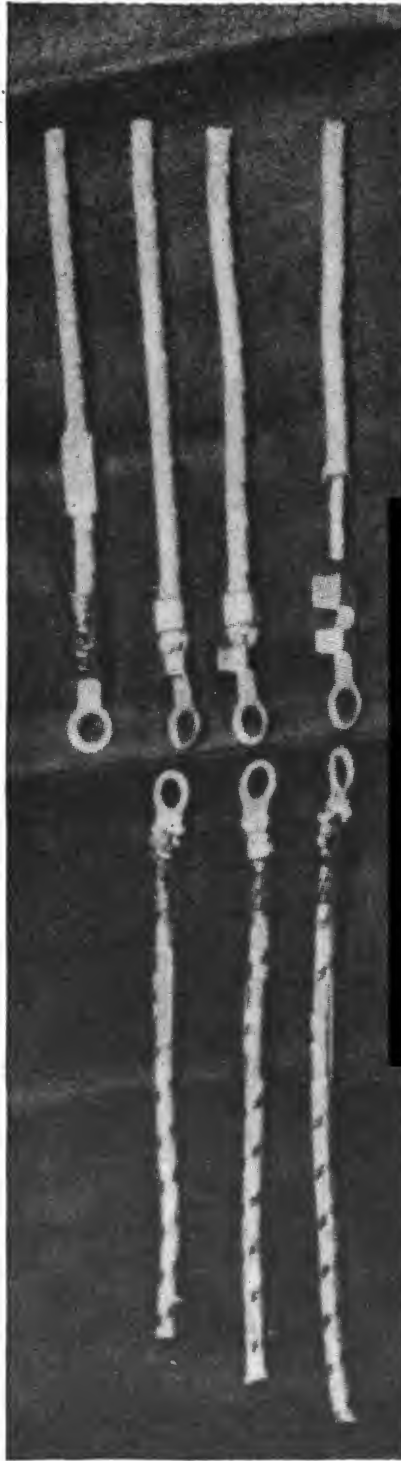

FIGURE 61.—Copper electric terminal, light soldering lug.
*k. Terminal, electrical, copper, soldering lug, light, class 29.*—These are eye terminals to be soldered to the ends of aircraft cable, class 08. Each terminal has four small tabs, the outer two are clamped over the insulation of the wire, and the other two are bent over the soldered connection and sweated. (See fig. 61.)